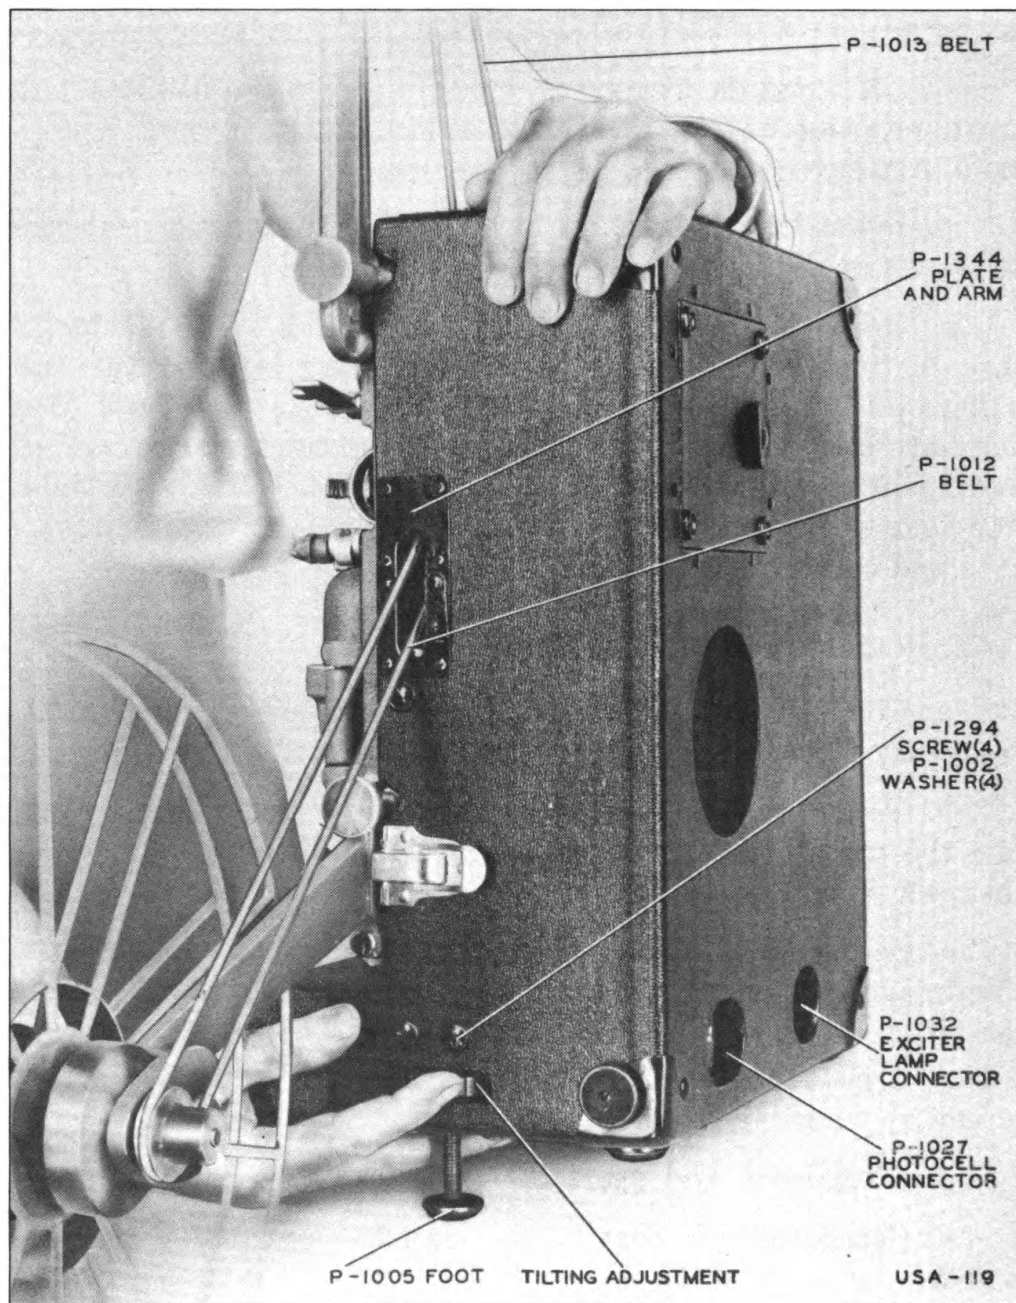

Figure 6—Projector—Tilting Adjustment
*c.* Center the image of the picture aperture on the screen. The image is moved vertically by adjusting the movable foot on the front of the projector as shown in Figure 6.